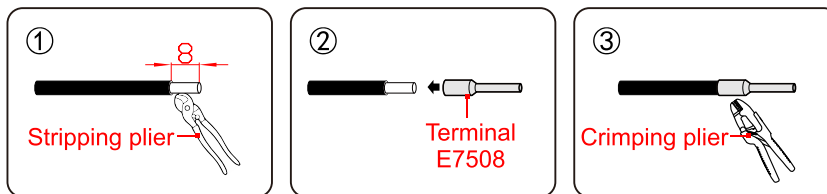

Figure4-24 Crimp the 24V output cables
Step 2 Crimp the 24V output cables, as shown in Figure4-24.